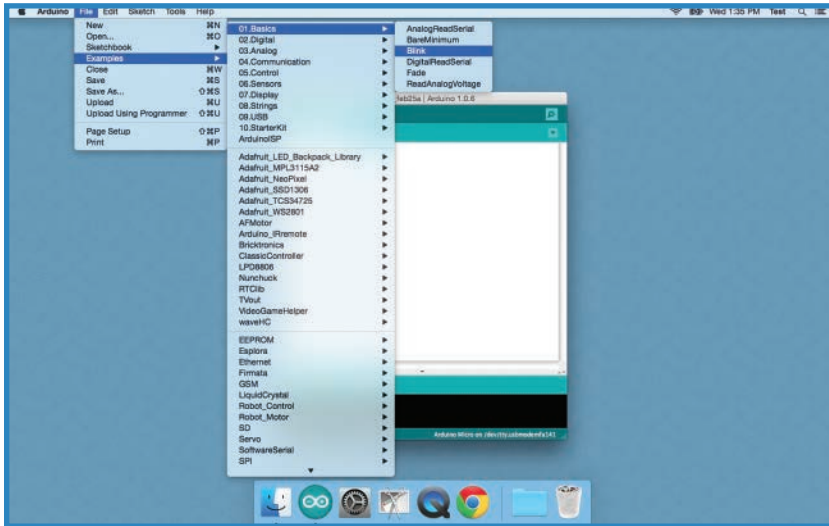

FIGURE 5.9 Open the Blink sketch.
- Now select File, Open to open up your “sketch,” which is what programs are called in the Arduino world. You can either download someone else’s sketch from the Internet, or use an example sketch such as Blink, which is found under File, Examples, Basics, Blink (see Figure 5.9). Blink is sort of the “Hello World” of hardware hacking. It’s the first thing you learn!